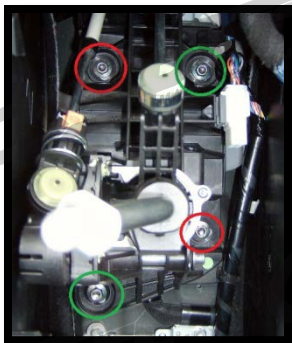

Figure 1a
- E. Unbolt the shifter base, using a 10mm socket and long extension. (See Figure 1a for bolt locations)
- A. Install a shifter bushing under each shifter base. There are two (2) sizes of shifter bushings. (Shown in Figure 1a, the bushings with "CS" logo (Smaller) go in the Green circles.